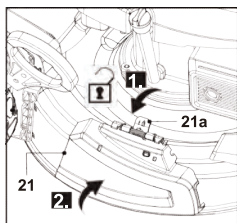
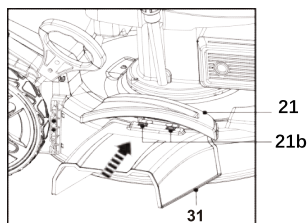

Fig. 18
Fig. 19
2. Turn the locking buckle (21a) downward and hold to disengage it (Fig. 18, step 3, step 1).
4. hold it in position (Fig. 18, step 2). Align and hang the slots (31a) of the side discharge attachment (31) onto the hooks (21b) (Fig. 19). The side discharge attachment is ready for use.